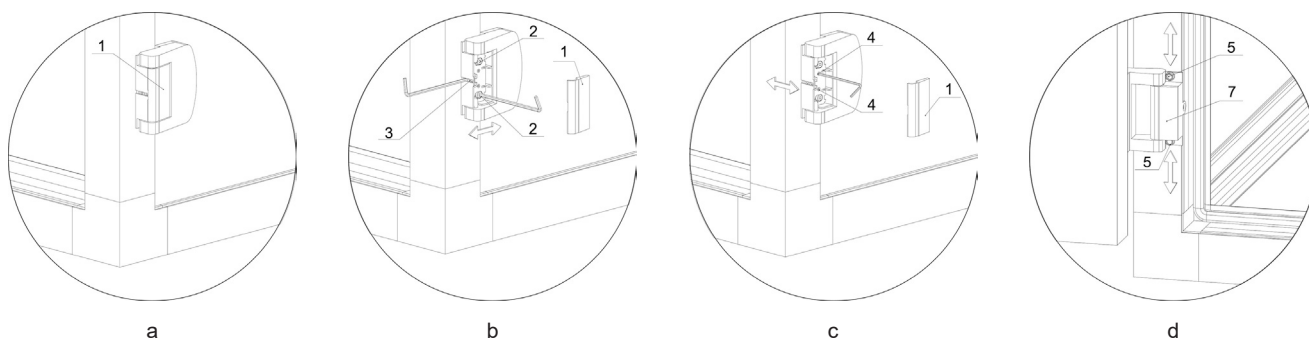

Figure 9.5.3. (a, b, c, d) – AmberAir hinge adjustment sequence.
Hinge adjustment (Figure 9.5.3):
1. Remove hinge cover 1 (Figure 9.5.3 a).
2. Loosen the two screws 2 securing the mobile element (Figure 9.5.3 b).
4. Turn the screw 4 for the adjustment of gasket compression (Figure 9.5.3 c).
7. Loosen self-tapping screws 5 (Figure 9.5.3 d).